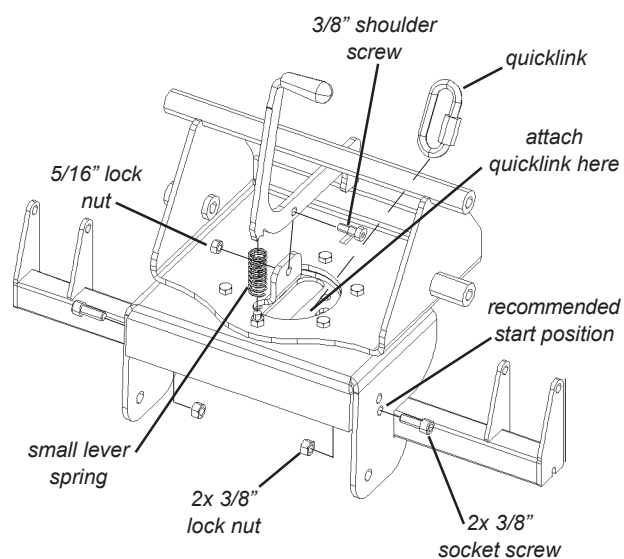

Figure 1 Assemble Plow Lever
1. Assemble the plow lever arm per figure 1. Run a 3/8" dia shoulder bolt through the lever arm side and out the center hole in the plow base. Terminate with a 5/16" dia lock nut. Tighten until the lever arm is firmly against the plow base, but back off the torque until the lever arm rotates freely.
2. Attach two socket screws to the side flanges of the plow base as shown in figure 1. Place the socket screw in one of the two holes in the side flange, and place the other socket screw in the same location on the opposite side. Terminate with a 3/8" dia lock nut.
3. Attach the quicklink to the center of the plow base as shown in figure 1. With the quicklink open, slide the mouth of the quicklink over the center bar located in the middle of the plow base next to the lever arm. Once in position, tighten the quicklink closed.